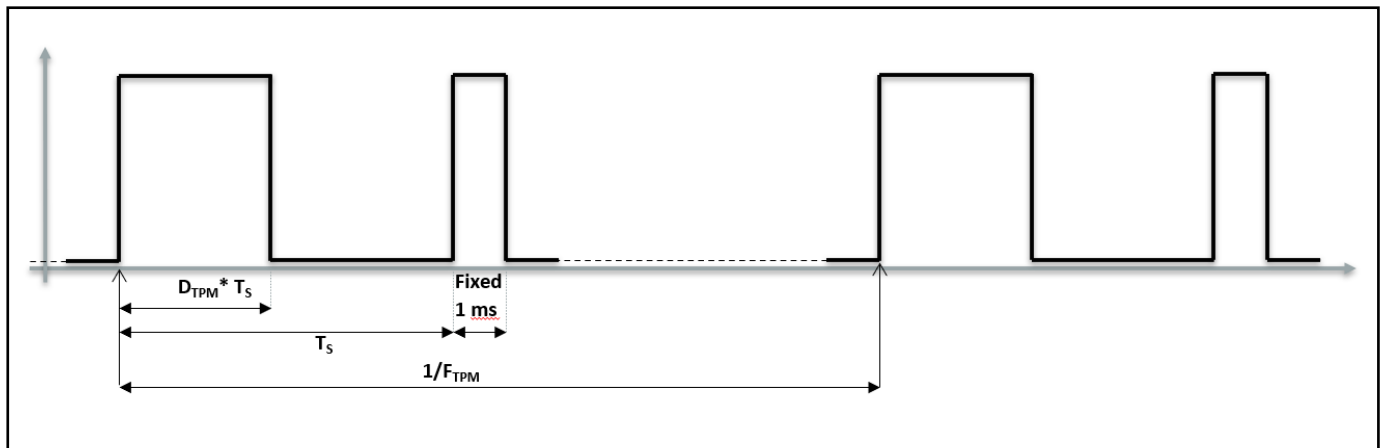

Figure 3. TPM Waveform.
- Refer to figure 3 for details.